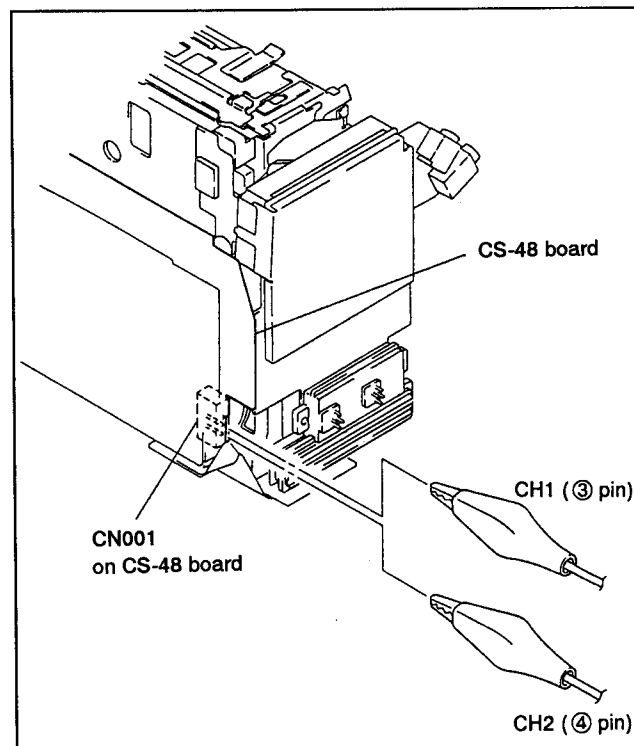

Fig. 7-2-1.
- 4) Check that the RF waveform of the oscilloscope is flat at both inlet and outlet sides. If not flat, make adjustment as follows. (Refer to Fig. 7-2-1 and 7-2-2)